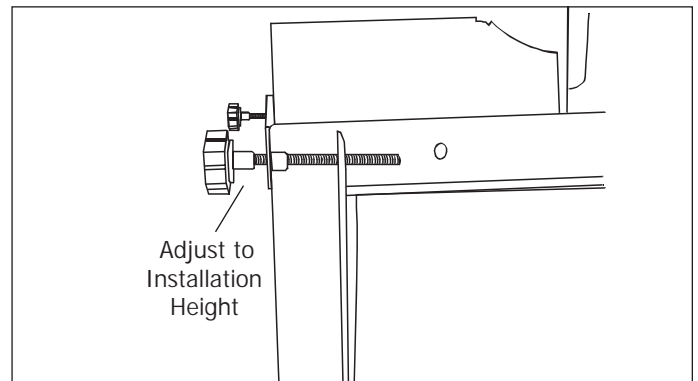

Figure 2-8.
2. Measure installation height and dishwasher height. Extend leveling legs out from the dishwasher base, 1/4" less than installation height. (See Figure 2-8)